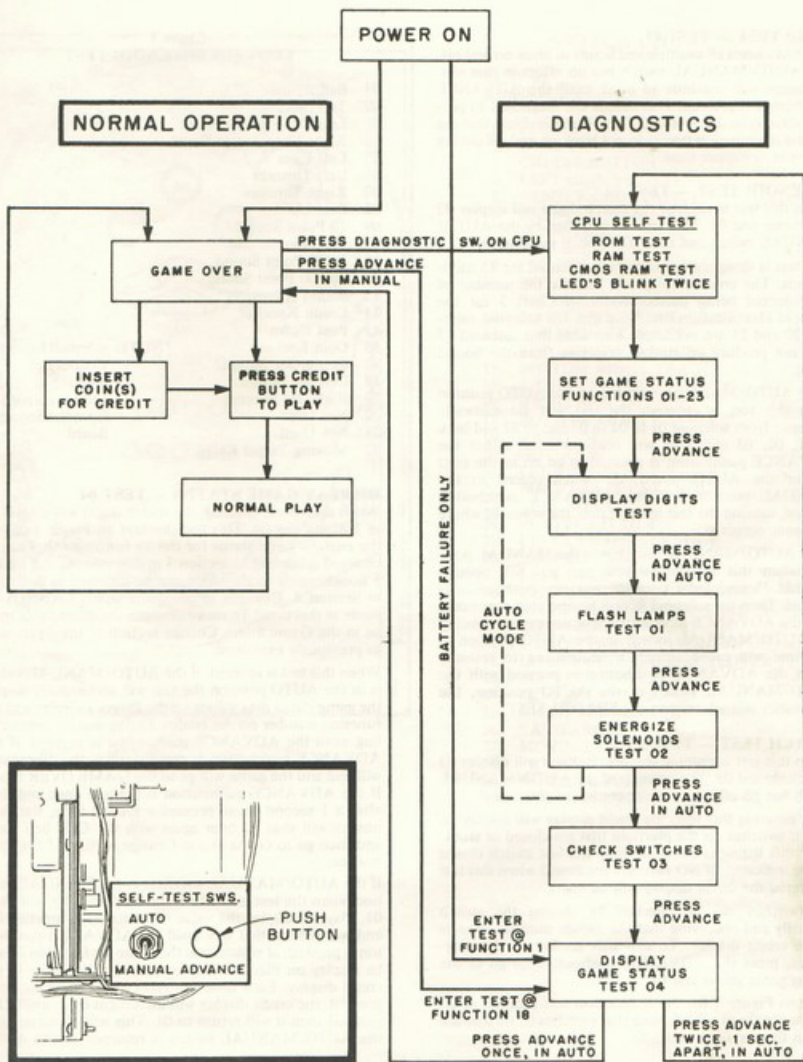

Figure 6. Normal Operation and Diagnostic Flow Chart
*There are specific subtests in these tests. The different ways to enter the diagnostics and normal game operation are shown in Figure 6. There is also an auto cycle test which will be discussed later.